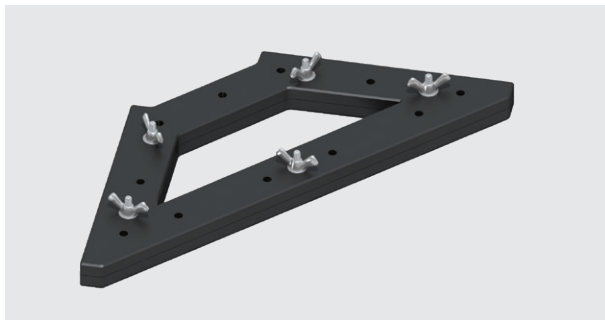

Figure 31: Profile Bracket - Black
- On a level surface, assemble the cut sections to form the frame, securely fixing a Profile Bracket (Figure 31) in each 90° corner.